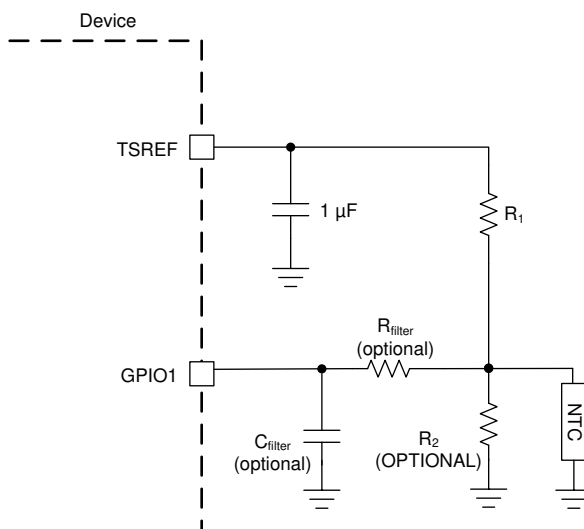

Figure 8-6. Thermistor Connection
Figure 8-6 shows the thermistor circuit when GPIO is enabled for thermistor measurements. MCU ensures TSREF is enabled by setting $CONTROL2[TSREF_EN] = 1$ and settled before taking the measurement value.
- $R1$ is the pull-up resistor as shown in Figure 8-6 with the assumption the $R2$ is not used